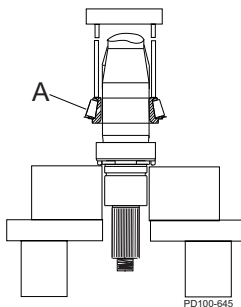

Figure 277 - Press Lower Cone onto Shaft
3. Lift the lower cone and roller assembly (Figure 277, item A) out of the bearing stack and place it on the shaft with the radius facing down. Press it onto the shaft until it is seated against the shaft shoulder. **Press only on the inner cone.**